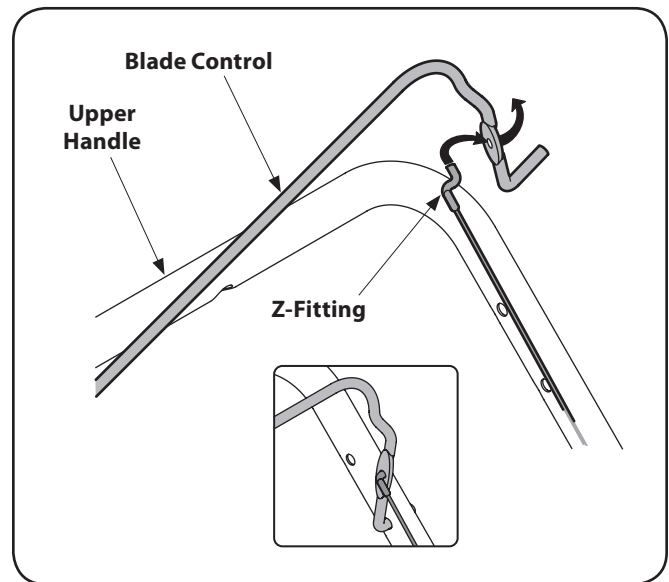

Figure 3-2
1. To make it easier to attach the Z-fitting, temporarily remove the left side of the blade control as shown in Figure 3-2.
2. Hook the Z end of the brake cable into the control from the inside to outside. See Figure 3-2.